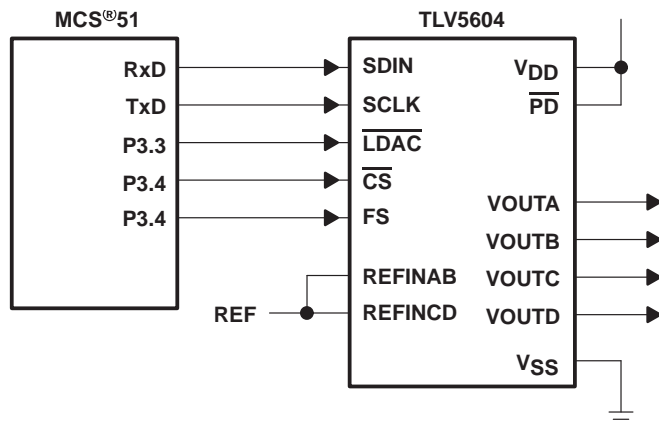

Figure 18. TLV5604 Interfaced with MCS®51
Figure 18 shows an example of how to connect the TLV5604 to an MCS®51 Microcontroller. The serial DAC input data and external control signals are sent via I/O Port 3 of the controller. The serial data is sent on the RxD line, with the serial clock output on the TxD line. Port 3 bits 3, 4, and 5 are configured as outputs to provide the DAC latch update ( $\overline{\text{LDAC}}$ ), chip select ( $\overline{\text{CS}}$ ) and frame sync (FS) signals for the TLV5604. The active low power down pin (PD) of the TLV5604 is pulled high to ensure that the DACs are enabled.